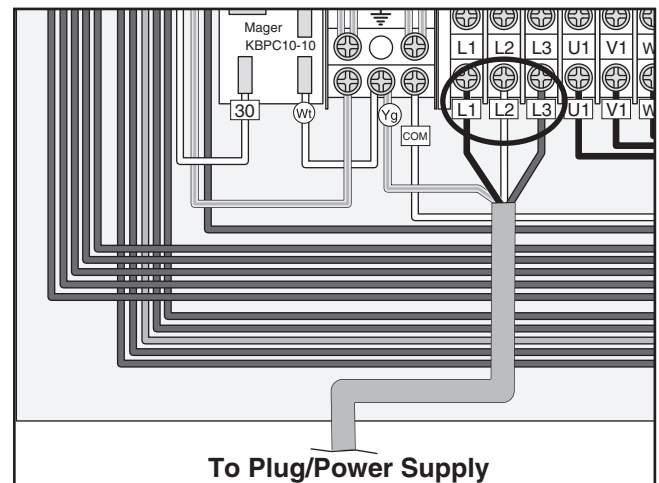

Figure 10. Ground and hot wires connected.
4. Connect the incoming hot wires and ground wire to the terminals shown in **Figure 10**.